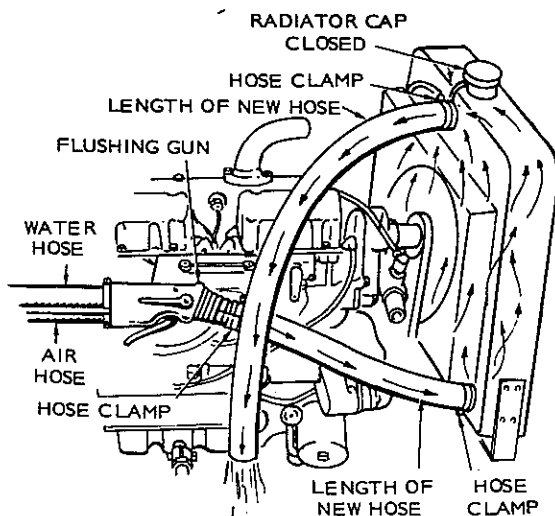

FIGURE 6-31. FLUSHING GUN INSTALLATION
2. Secure flushing gun in radiator lower hose with a hose clamp, Figure 6-31.